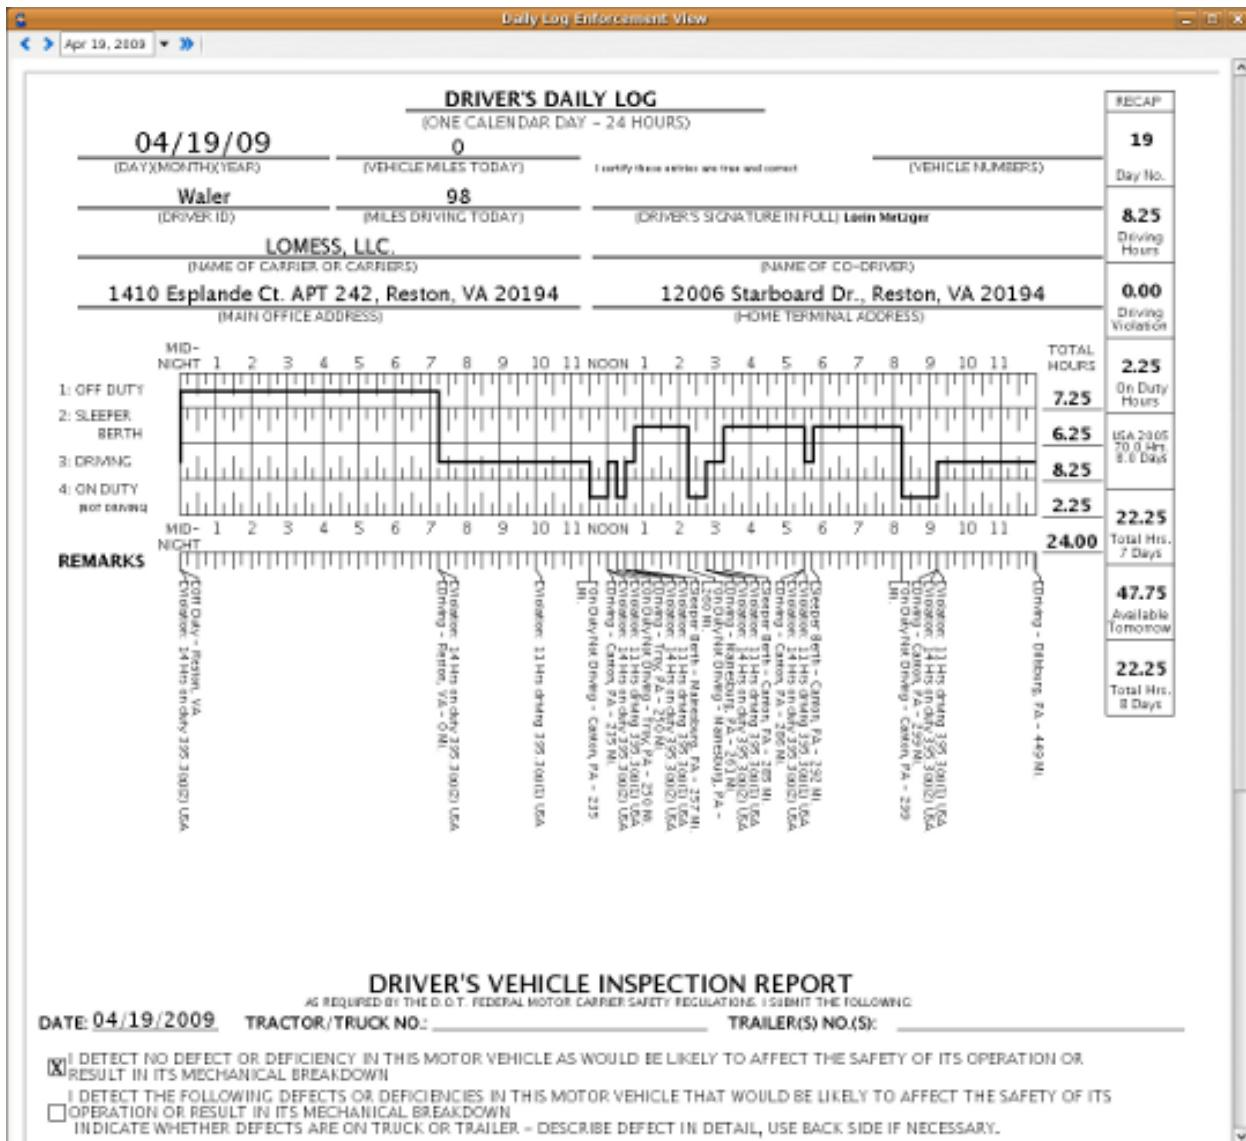

Figure 7.6. Enforcement View Dialog
1. Make sure trucklogger is running, then click the File → Enforcement View menu item or the "Enforcement View" button located on the dock bar and wait for the Enforcement View Dialog to appear, see Figure 7.6, "Enforcement View Dialog"
Although the law enforcement officer should never need to change the log and dvir format, it is possible for drivers to do this by clicking the double arrow expand button see Figure 7.6, "Enforcement View Dialog".